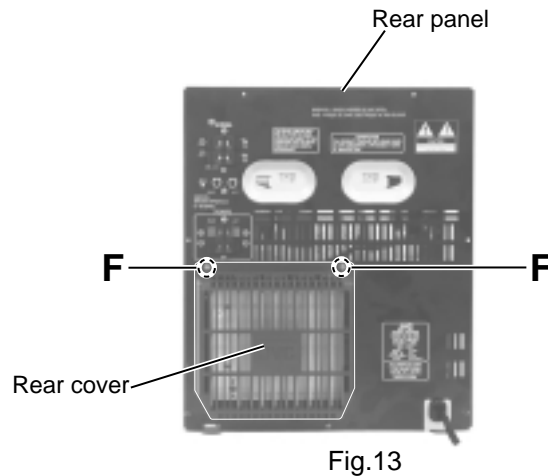

Fig.13
**■Removing the rear cover and the rear panel (See Fig.13 to 16)**